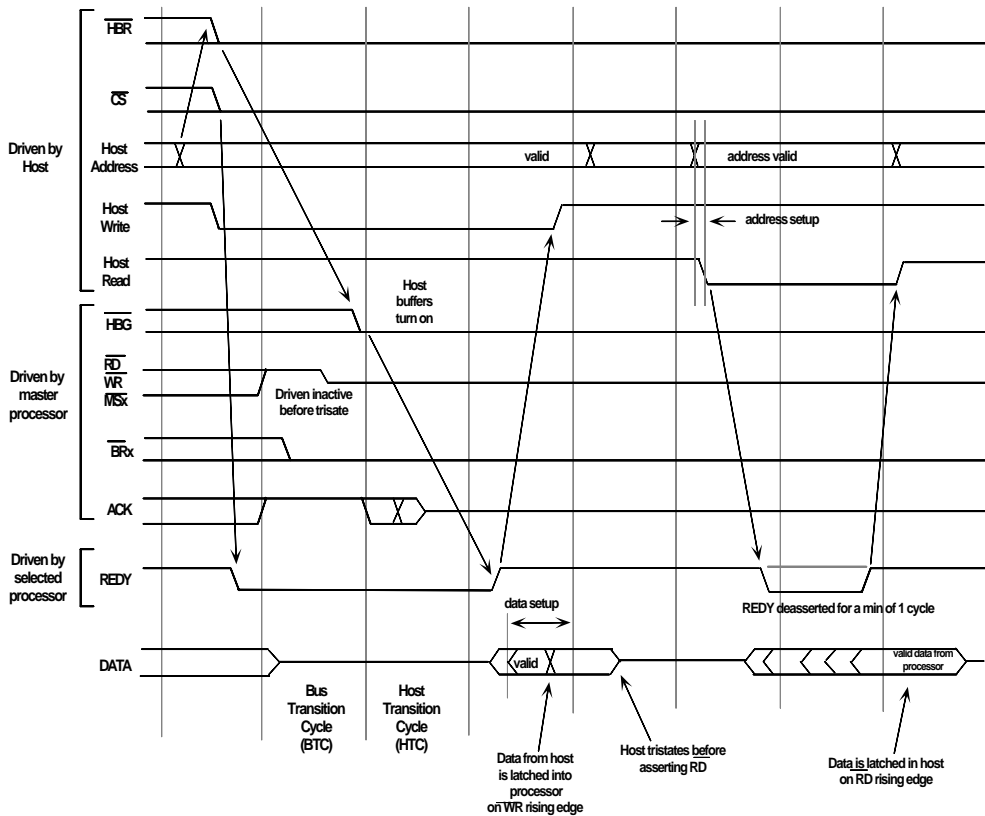

Figure 8-3. Example timing for host read and write cycles
2. Drives the  $\text{ADDR}_{7-0}$  and either the M address field bits as 0 or any E address field bits as 1 (for details, see Table 5-3 on page 5-20),  $\overline{\text{RD}}$ ,  $\overline{\text{WR}}$ , and  $\overline{\text{SW}}$  signals during the HTC in which it gains control of the bus (see Figure 8-3 on page 8-13).
Figure 8-3 shows the timing of a host write cycle. This timing is based on the example host interface hardware shown in Figure 8-8 on page 8-45.
Figure 8-3 on page 8-13 also shows the timing of a host read cycle. This timing is based on the example host interface hardware shown in Figure 8-8 on page 8-45.